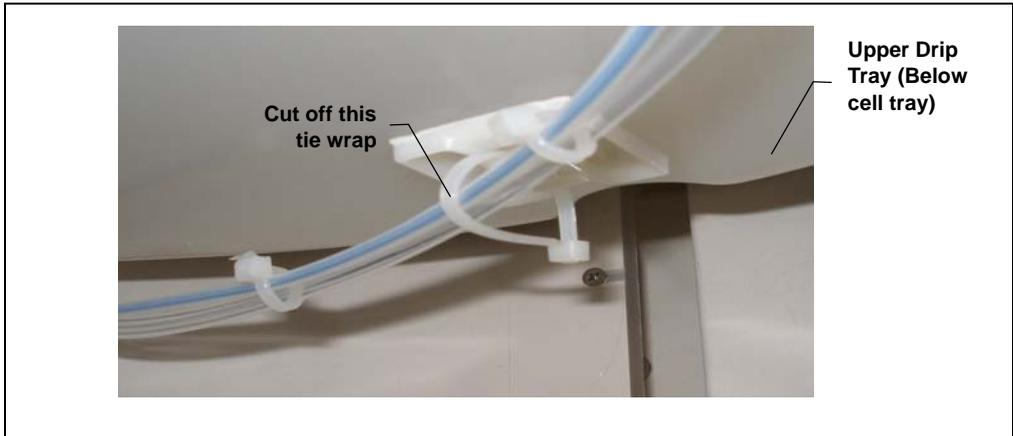

Figure 5-20. Tie Wrap Removal
- Note the three pieces of tubing routed underneath the upper drip tray and held in place with tie wraps. Cut off the tie wrap indicated in Figure 5-20.